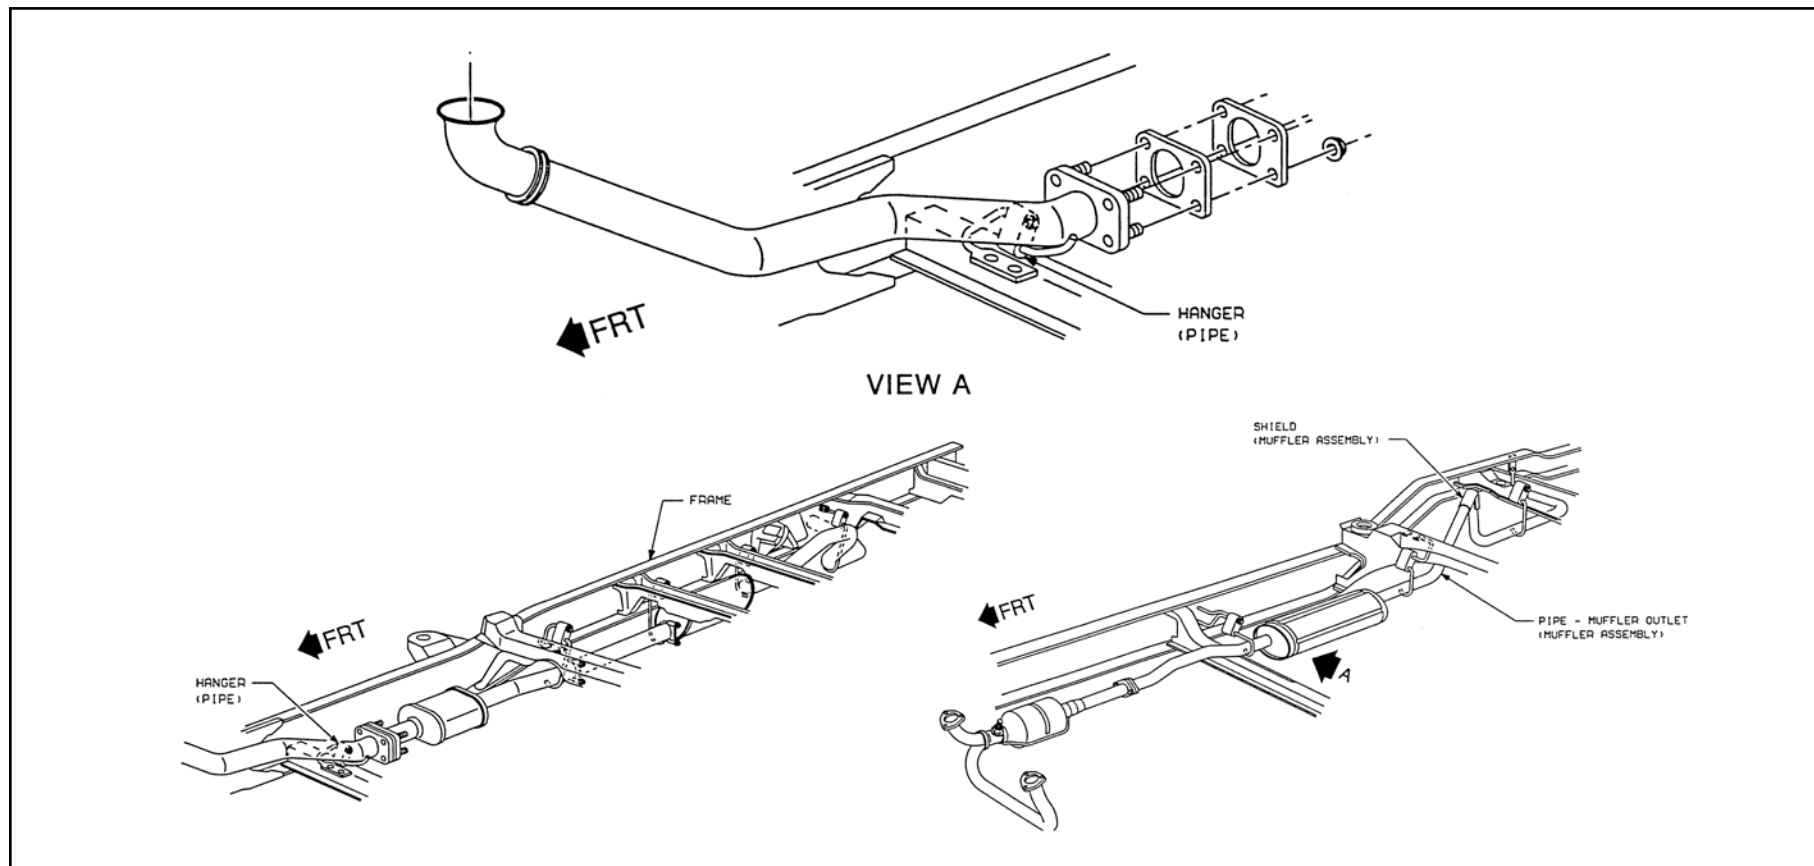

Figure 33
- The exhaust system rotates with the engine. This requires a minimum clearance of 17 mm (0.7 in.) from the floorpan and frame (Figure 33).